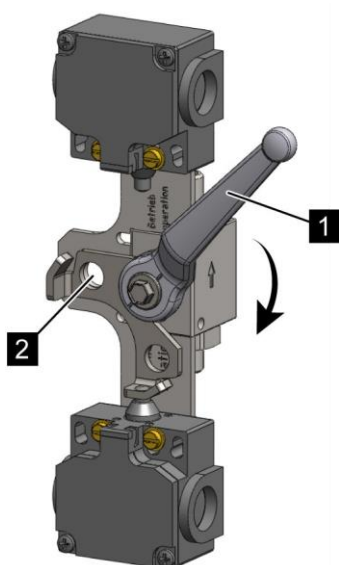

Fig. 20: Blocking device (optionally with 1 or 2 limit switches)
3. ➤ Turn the ball valve (Fig. 20/1) of the blocking device as far as it will go in clockwise direction (Fig. 20/arrow).
4. ➤ Hook the padlock into the locking eye (Fig. 20/2) of the blocking device and lock it.